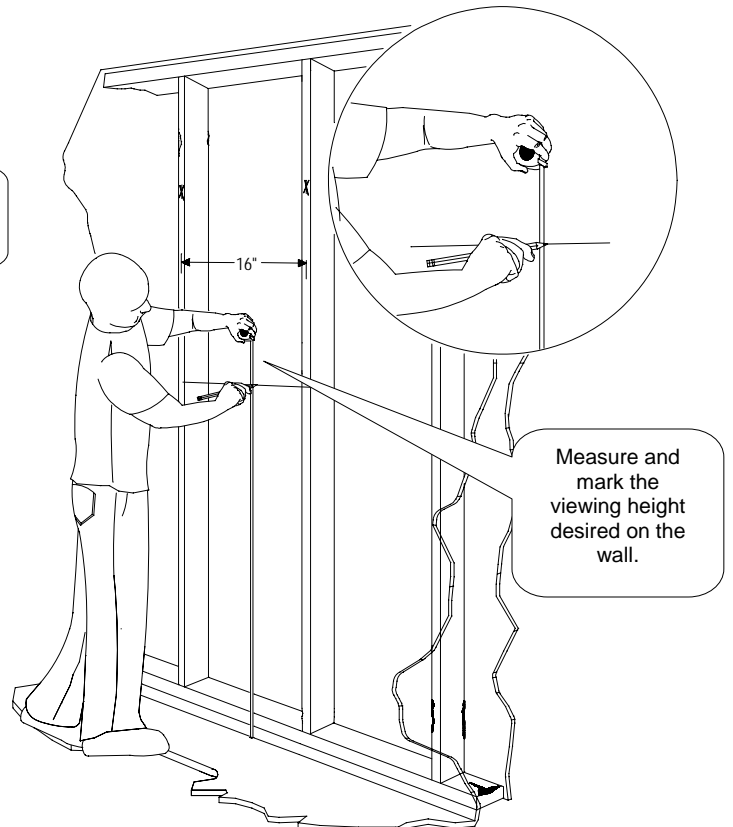

Figure 9
**NOTE:** This marking will reference the center of your flat panel display once mounted on the wall (Figure 9).